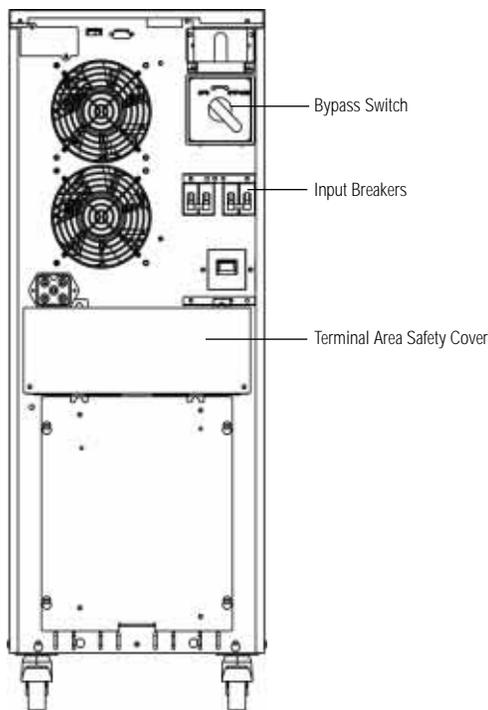

Fig. 6: Linear Plus Series UPS Rear View
1. Open UPS input breakers (Main 1 & Bypass), Fig. 6.
3. Set maintenance bypass switch to “Bypass,” Fig. 6
4. Remove terminal area safety cover, Fig. 6.